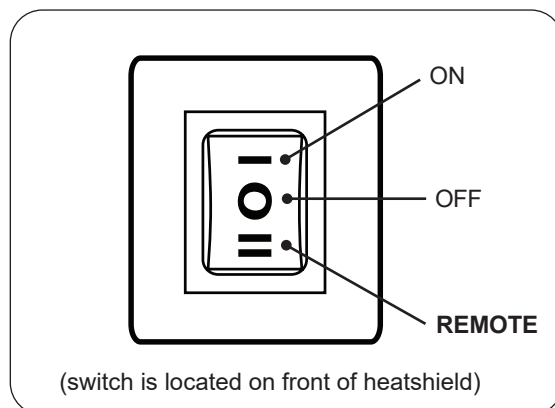

Fig. 12-1 Switch detail
1. Locate the 3-position switch found on the front of the heatshield (see Fig. 12-1). Press the switch down to the **REMOTE** position.